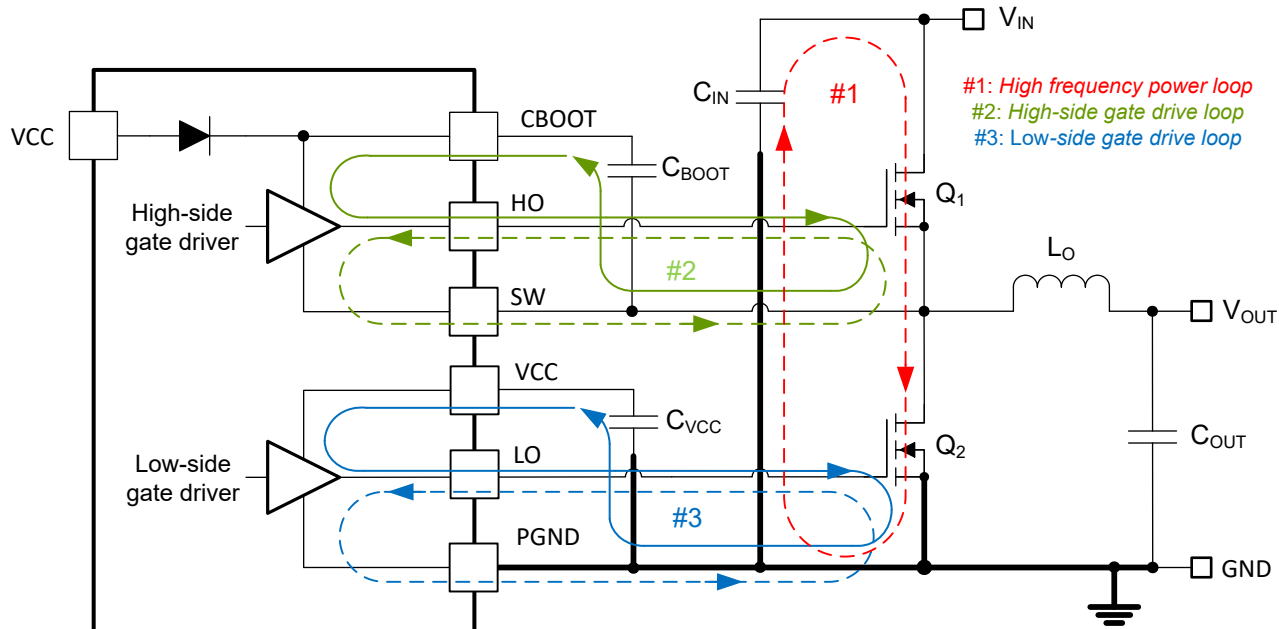

Figure 9-47. DC/DC Regulator Ground System With Power Stage and Gate Drive Circuit Switching Loops
Proper PCB design and layout is important in a high-current, fast-switching circuit (with high current and voltage slew rates) to achieve a robust and reliable design. As expected, certain issues must be considered before designing a PCB layout using the LM5149-Q1. The high-frequency power loop of a buck regulator power stage is denoted by loop 1 in the shaded area of Figure 9-47. The topological architecture of a buck regulator means that particularly high di/dt current flows in the components of loop 1, and it becomes mandatory to reduce the parasitic inductance of this loop by minimizing its effective loop area. Also important are the gate drive loops of the high-side and low-side MOSFETs, denoted by 2 and 3, respectively, in Figure 9-47.
- Loop 1: The most important loop area to minimize is the path from the input capacitor or capacitors through the high- and low-side MOSFETs, and back to the capacitor or capacitors through the ground connection. Connect the input capacitor or capacitors negative terminal close to the source of the low-side MOSFET (at ground). Similarly, connect the input capacitor or capacitors positive terminal close to the drain of the high-side MOSFET (at VIN). Refer to loop 1 of Figure 9-47.
5. The SW pin connects to the switch node of the power conversion stage and acts as the return path for the high-side gate driver. The parasitic inductance inherent to loop 1 in Figure 9-47 and the output capacitance (C_{OSS}) of both power MOSFETs form a resonant circuit that induces high frequency (greater than 50 MHz) ringing at the SW node. The voltage peak of this ringing, if not controlled, can be significantly higher than the input voltage. Make sure that the peak ringing amplitude does not exceed the absolute maximum rating limit for the SW pin. In many cases, a series resistor and capacitor snubber network connected from the SW node to GND damps the ringing and decreases the peak amplitude. Provide provisions for snubber network components in the PCB layout. If testing reveals that the ringing amplitude at the SW pin is excessive, then include snubber components as needed.
- Loop 2: high-side MOSFET, Q₁. During the high-side MOSFET turn-on, high current flows from the bootstrap (boot) capacitor through the gate driver and high-side MOSFET, and back to the negative terminal of the boot capacitor through the SW connection. Conversely, to turn off the high-side MOSFET, high current flows from the gate of the high-side MOSFET through the gate driver and SW, and back to the source of the high-side MOSFET through the SW trace. Refer to loop 2 of Figure 9-47.
- Loop 3: low-side MOSFET, Q₂. During the low-side MOSFET turn-on, high current flows from the VCC decoupling capacitor through the gate driver and low-side MOSFET, and back to the negative terminal of the capacitor through ground. Conversely, to turn off the low-side MOSFET, high current flows from the gate of the low-side MOSFET through the gate driver and GND, and back to the source of the low-side MOSFET through ground. Refer to loop 3 of Figure 9-47.